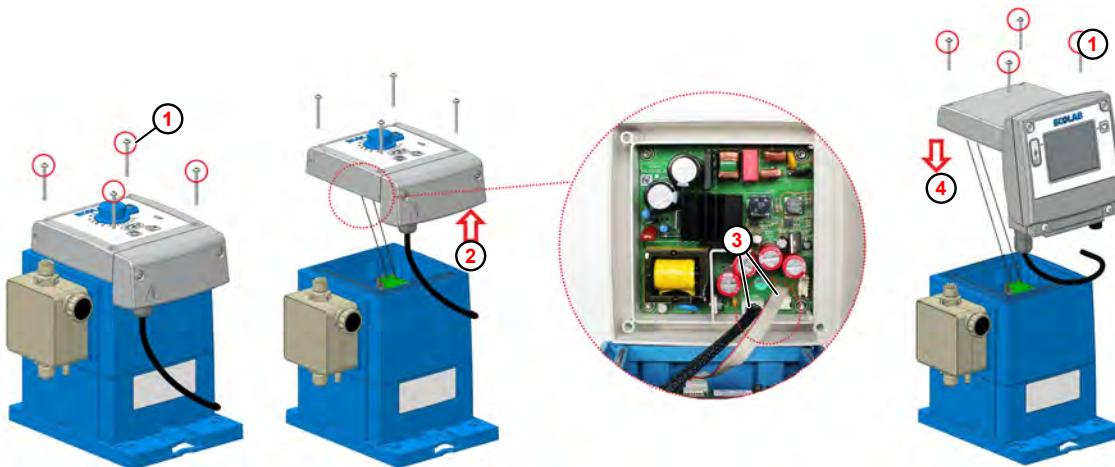

Fig. 33: Upgrade to EcoAdd
- ① Fixing screw
- ② Remove the control unit
- ③ Plug
- ④ Place the control unit
1. Loosen the screws (Fig. 33 , ①) on the **EcoUp** control unit using a Torx spanner (TX25).